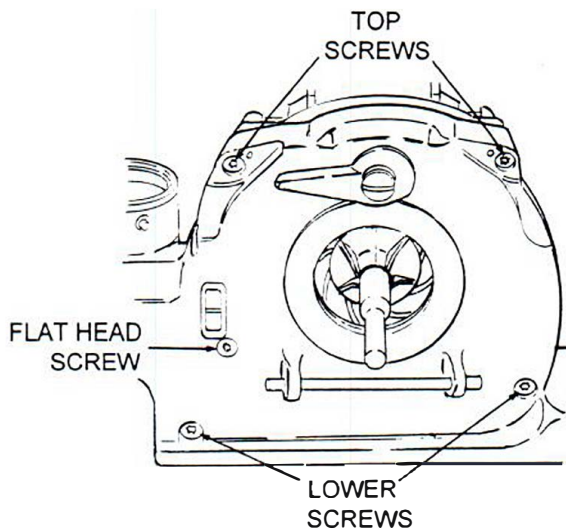

Figure 7. Fan Case Assembly Screw Removal
1. *See Figure 7.* Remove one flat head screw from front of fan case assembly. This screw is located just below the power switch interlock.